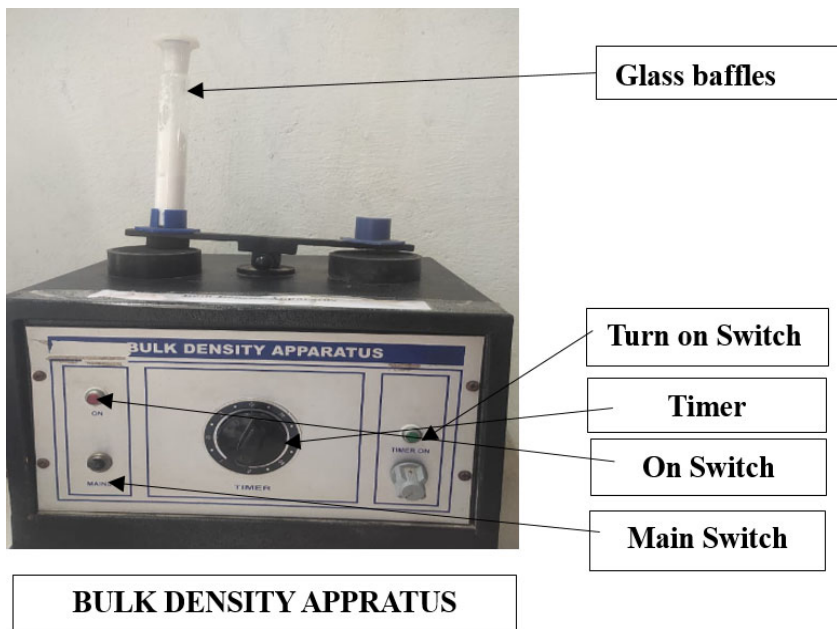

Fig. 1.1 Bulk Density Apparatus.
1. Bulk density: The bulk density of a powder is equal to the ratio of the mass of an untapped powder sample and its volume and expressed in gm/ml. It is measured by pouring the weighed sample powder/granules into the graduated cylinder using bulk density apparatus (no tapping is required) (Fig. 1.1), record the reading. and perform same procedure three times. Bulk density is used to determine the amount of powder /granules to fill in a space of blender or hopper for tablet formulation, and calculated by the following formula: